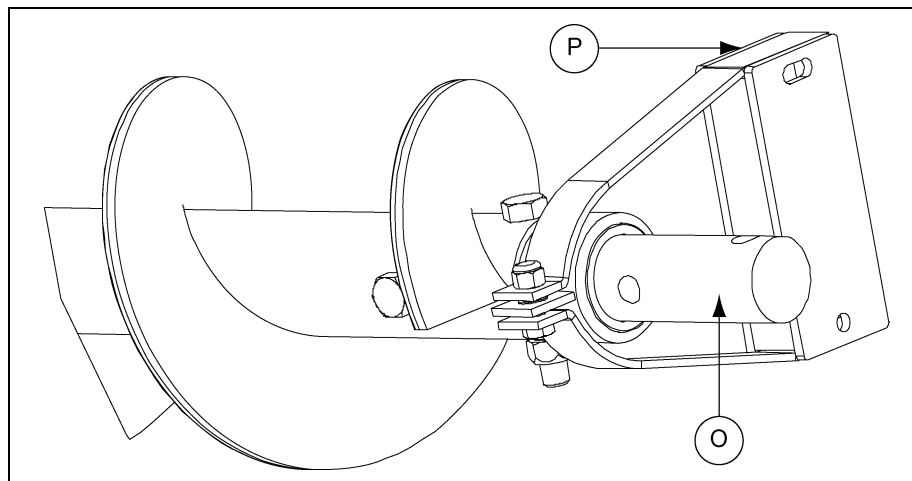

Figure 4AJ
5. Place the bearing stand assembly (P) onto the connecting shaft (O). (See Figure 4AJ.)